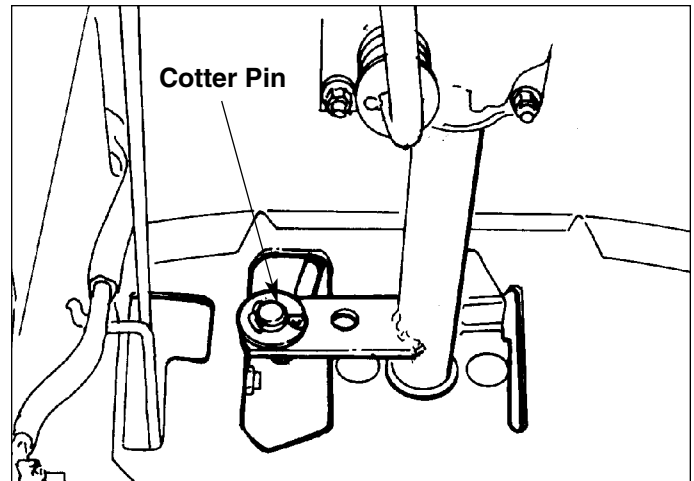

**Figure B-14. Disassemble Tension Bracket From Lower Dash**
4. Using a 7/16" socket and a short extension bar, remove the two sets of hex nuts, lockwashers, flat washers, and carriage bolts that attach the tension bracket to the inside wall of the lower dash (Figure B-14).